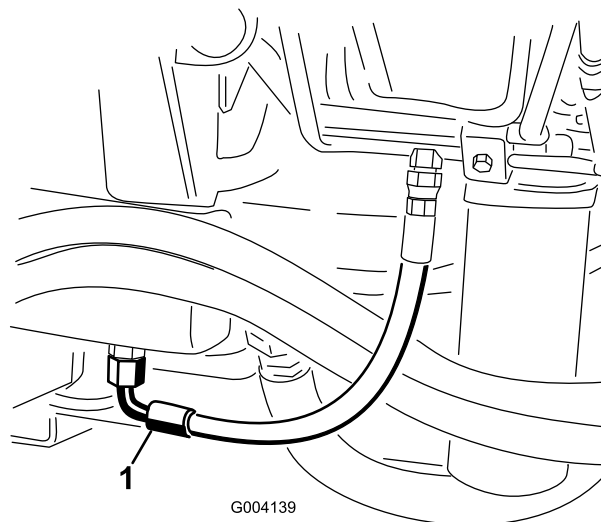

Figure 77
2. Place a large drain pan under the fitting secured to the bottom of the hydraulic fluid reservoir (Figure 77).